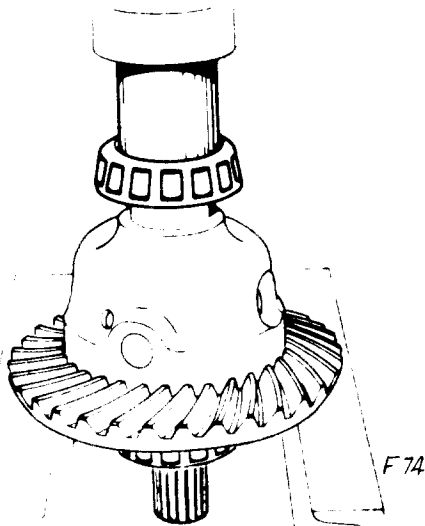

Fig. 39.
- a. The differential assembly. (as shown in Fig. 39)